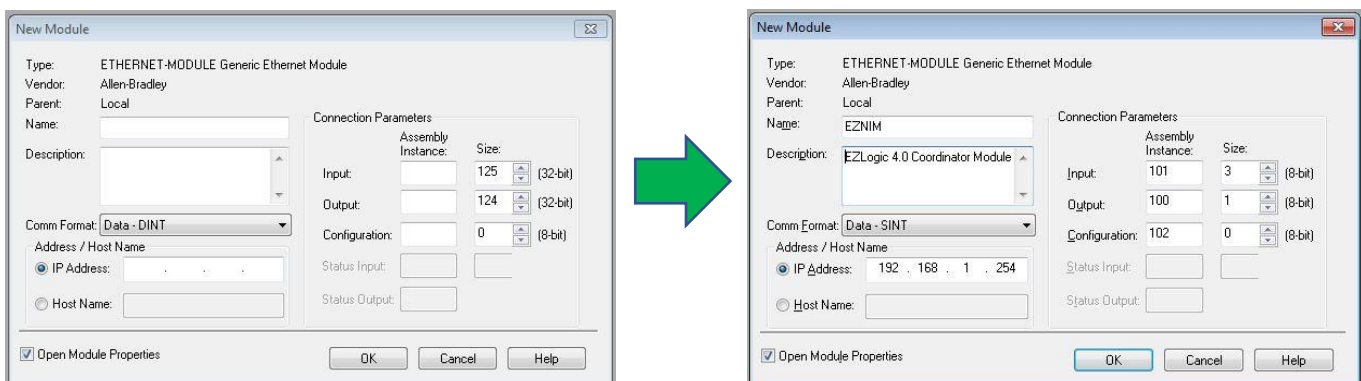

Figure 6: Generic Ethernet Module configuration on RSLogix5000
4. Click on Create and a new screen will come up, then fill up the configuration screen with the proper configuration. See figures 6 and 7. For more information refer Hytrol manual *H2-MN-NP-002.1.0_EZLogic4.0_SW_D_Configuration_EN.pdf* New SWD Network configuration sections 3a) to 3c):